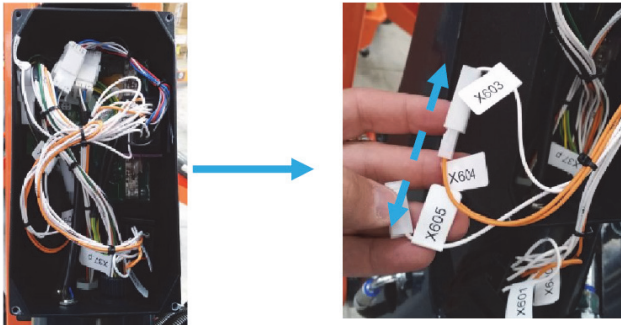

Figure 4-46.
11. Open load cell board (ECM3) box, locate connectors X604 and X603, then disconnect them. See Figure 4-46.